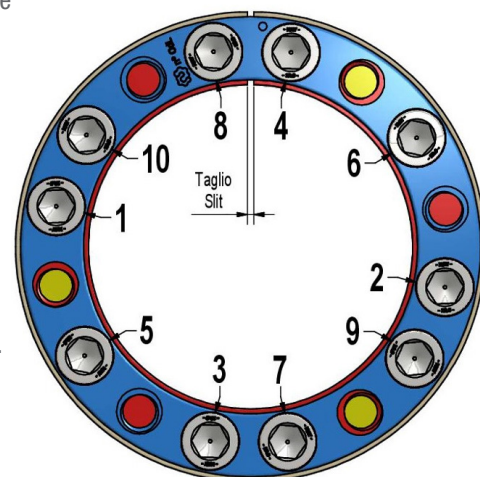

Fig. 3
4. Tighten the screws by hand in a crosswise pattern, starting from a screw located at 90° approx. respect to slit in the inner ring (fig. 3), until fitting clearances with shaft and hub bore are bridged and connected components are slightly locked, while making sure that hub is aligned as required using a dial indicator. **Better centering of hub from the beginning of installation is essential for better centering when installation is completed.**
5. Use a torque wrench set approx. 5% higher than specified tightening torque (Ma), or reduced within admissible value. **Progressively tighten the screws in a crosswise pattern (fig. 3), using approx. ¼ turns for several passes** until ¼ turns can no longer be achieved.